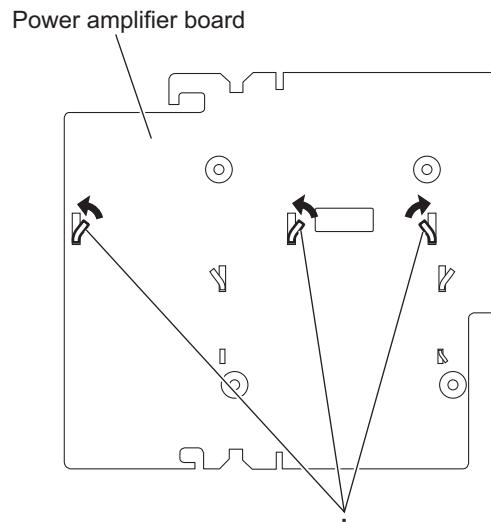

Fig.12
3.1.8 Removing the heat sink (See Figs.12 and 13)
- (1) From the reverse side of the power amplifier board, bend the claws **i** of the heat sink in the direction of the arrow. (See Fig.12.)